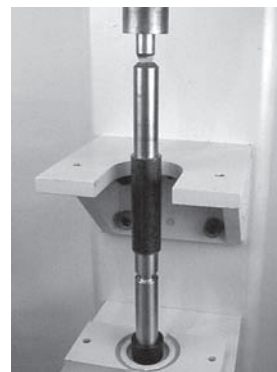

Figure 46
6. Using an arbor press or similar device, press bearing onto pulley shaft (**Figure 46**).